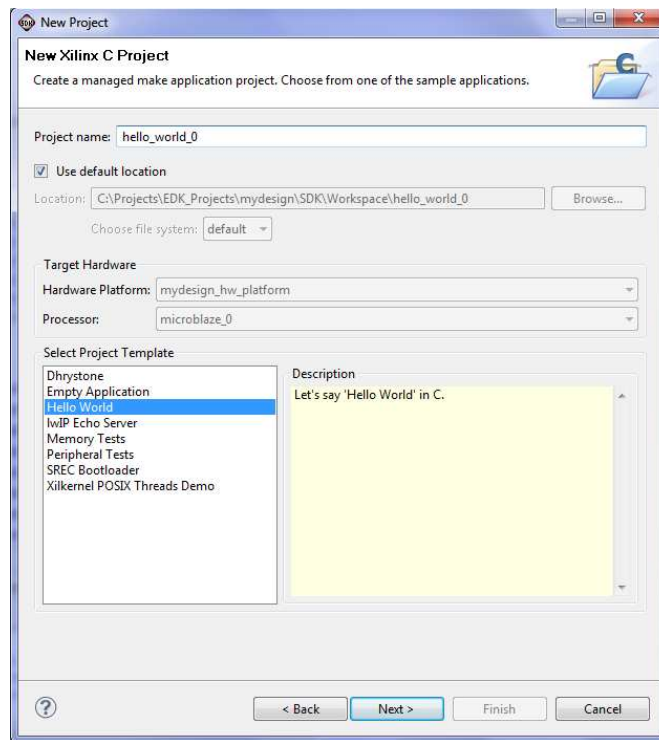

Figure 23. New Project (Step 5)
Step 5: The second screen of the New Project Wizard is shown in Figure 23. This screen allows you to select a template for the project you want from a predefined list. Select **“Hello World”** which is a template for a simple application that will send some text through the serial port. We will modify this application later. Select **“Hello World”**, keep everything else unchanged, and then press next.